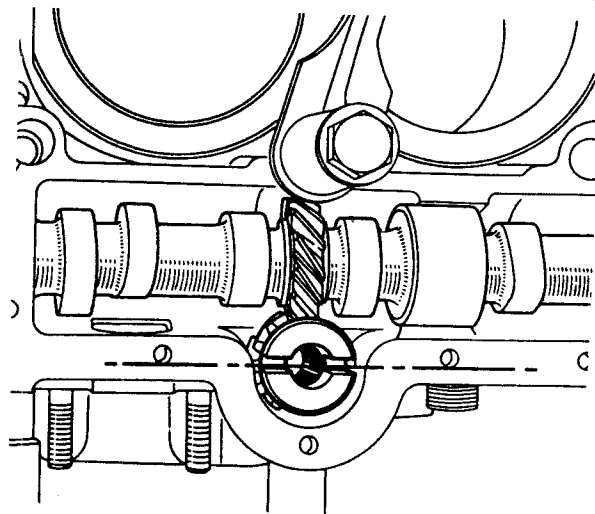
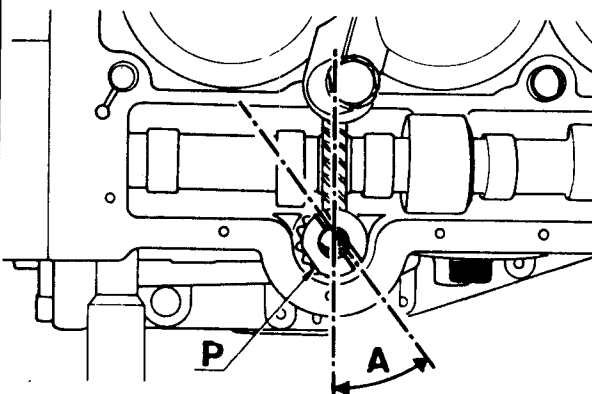

Fig.1.55 Smaller segment location on distributor drive shaft (type 697 and 821 engines)
Fig.1.56 Smaller segment location on distributor drive shaft (type 807 engines) A is 53° P is flat
2 Insert the oil pump/distributor drive gear to mesh with the camshaft gear as follows (Photo) with type 697 and 821 engines the slot must be parallel with the centre of the engine and the small D segment nearest the camshaft, Fig.1.55. With type 807 engines, position the drive so that the small D segment is nearest the camshaft and the slot at an angle of 53° (A) as shown in Fig.1.56. An additional guide to location is provided by the flat (P).